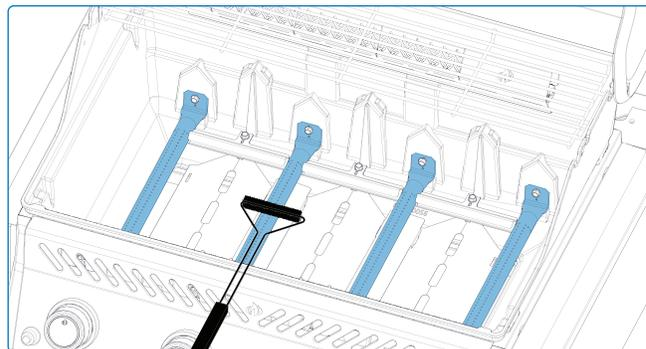

Fig. 10
4. Remove the sear plates and brush debris from the burners with a wire brush (**Fig. 10**)